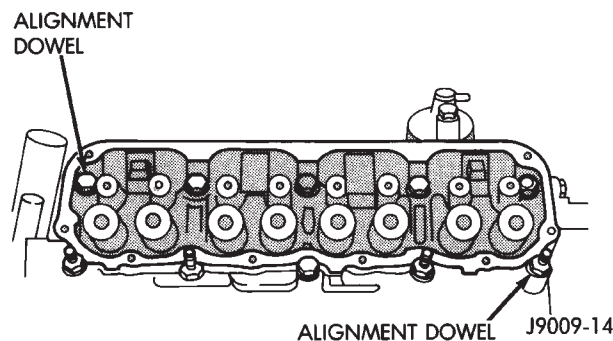

Fig. 38 Alignment Dowel Locations
(2) Install one dowel in bolt hole No.10 and the other dowel in bolt hole No.8 (Fig. 38).